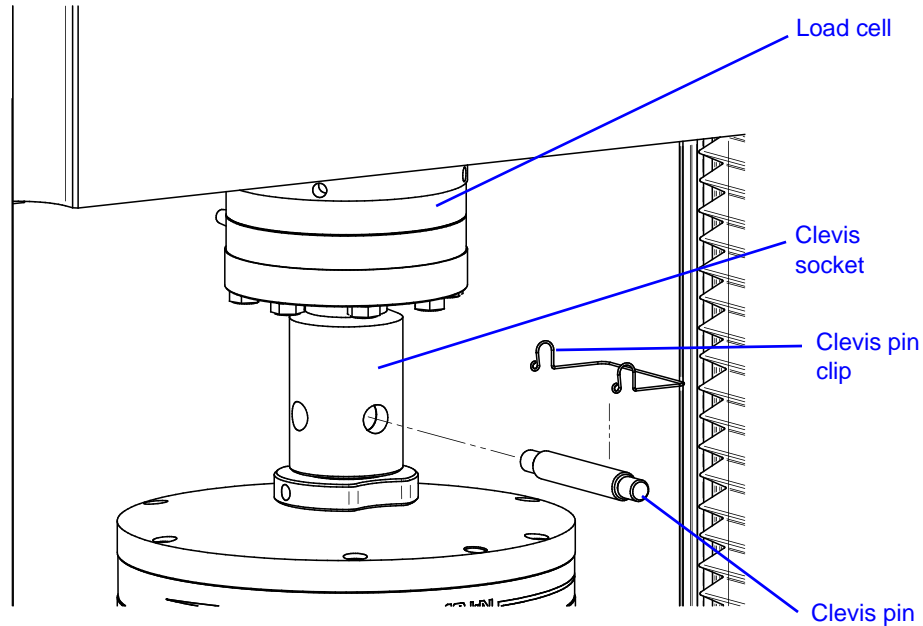

Figure 3-1. Installing Grip onto Load Frame
1. Insert the adapter on the grip into the female clevis socket on the load frame base or load cell as shown in Figure 3-1 on page 3-2.